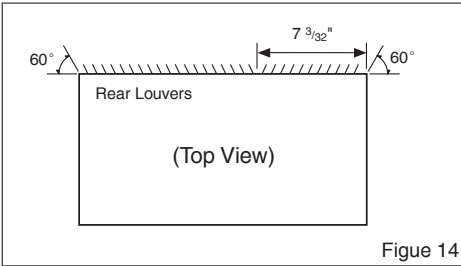

Figure 14
- 1** Redirect the louvers at the back of the wall sleeve to 60° angle as shown in Figure 14. The use of pliers is recommended.